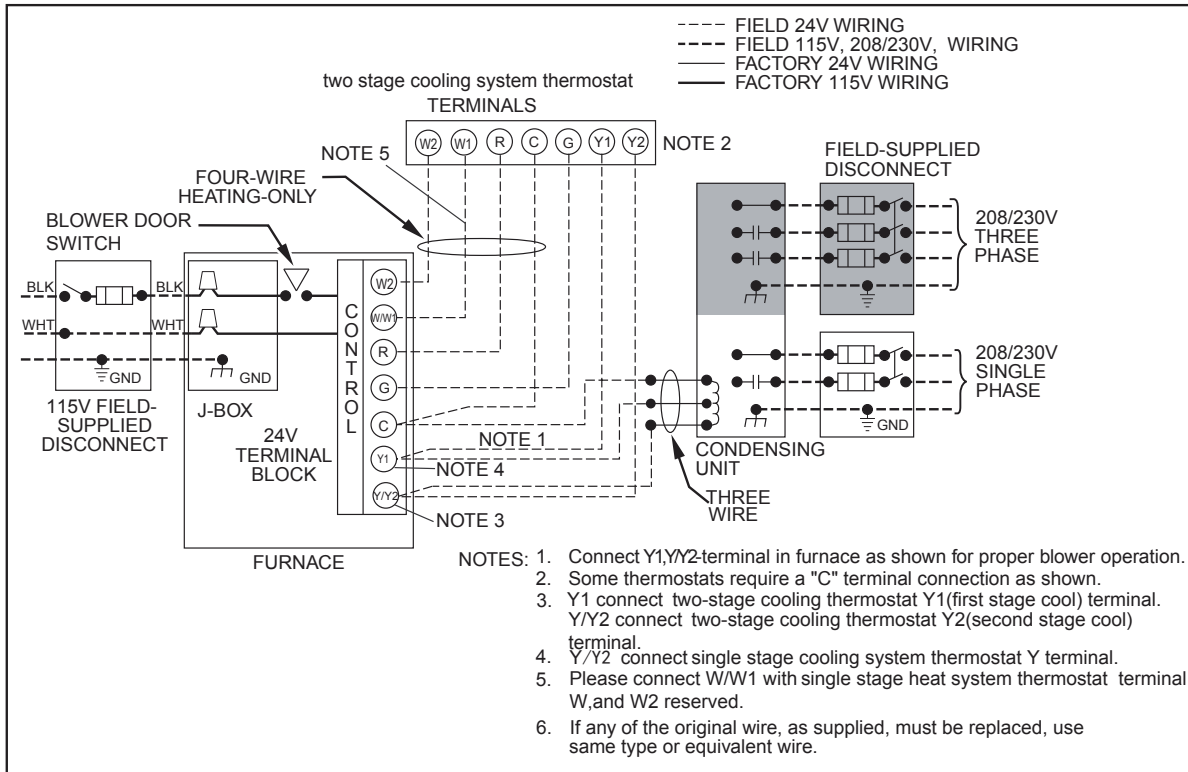

Fig.33 - Heating and Cooling Application Wiring Diagram with 2-Stage heatingThermostat
See Fig. 33 for field wiring diagram showing typical field 115V wiring. Check all factory and field electrical connections for tightness. Field-supplied wiring shall conform with the limitations of 63°F (35°C) rise.
5. Connect line voltage leads as shown in Fig. 33.
12. Complete electrical box wiring and installation. Connect line voltage leads as shown in Fig. 33. Use best practices (NEC in U.S. and CSA C22.1 in Canada) for wire bushings, strain relief, etc.
1. Maintain 115V wiring and ground. Improper polarity will result in rapid flashing LED and no furnace operation. (See Fig. 33)
2. Make thermostat wire connections at the 24-V terminal block on the furnace control. Failure to make proper connections will result in improper operation. (See Fig. 33)